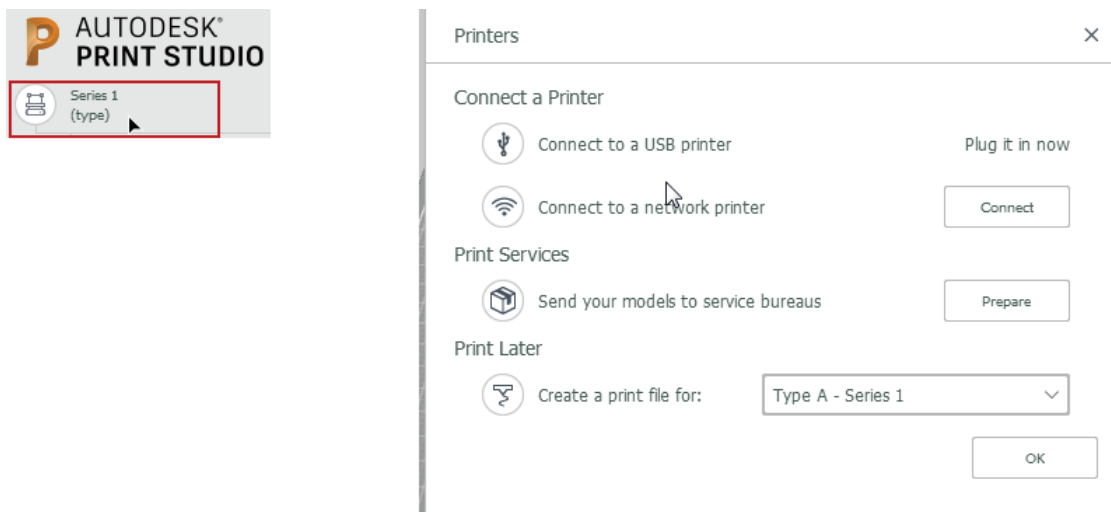

Figure-42. Selecting a 3D printer
- To set desired 3D Printer, click on the **Change Printer** button at upper left corner; refer to Figure-42. The **Printers** dialog box will be displayed. In this dialog box, you can select the printer connected via USB or connected at network.